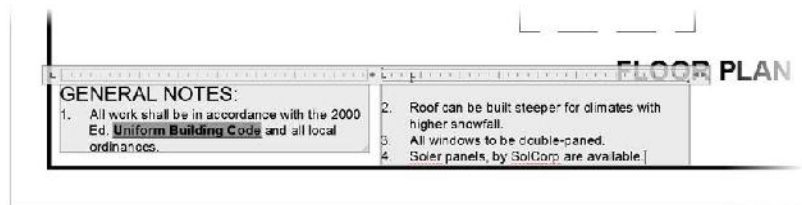

FIGURE 8.70: The new line of text with the misspelled words
6. Notice how the words *Soler* and *SolCorp* are underlined with a dashed line (see Figure 8.70).